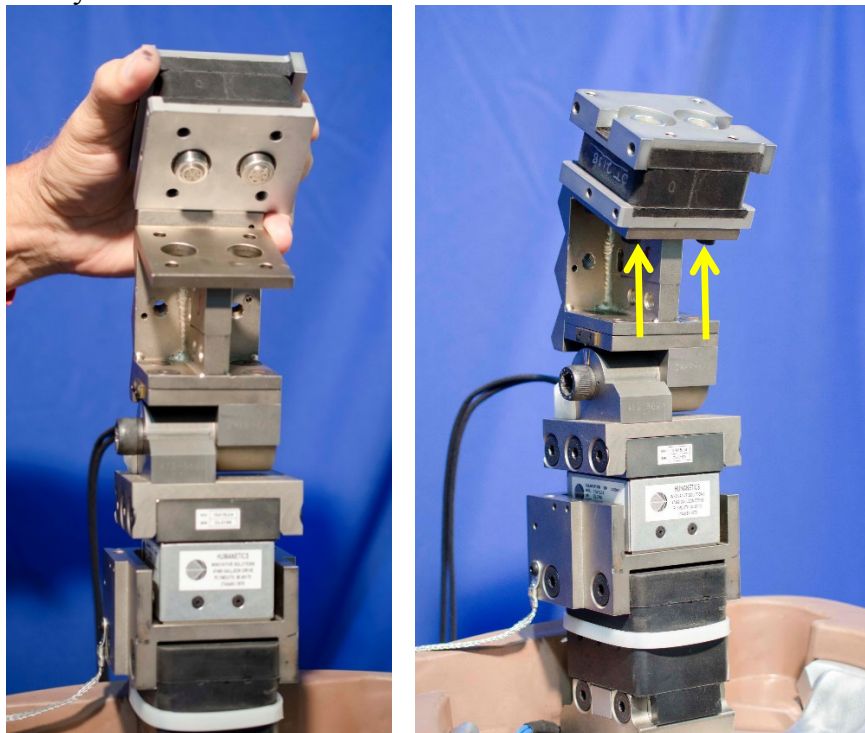

Figure 5-23. Upper flex joint assembled to lower thoracic spine assembly
5.2.2.14 Attach the Upper Thoracic Spine Flex Joint (472-3640) to the Lower Thoracic Spine Assembly (472-3650) using four M6 x 1 x 12 SHCS on the underside of the Lower Thoracic Spine Assembly (Figure 5-23). The flex joint must be oriented with the smaller bottom plate (472-3642) against the Lower Thoracic Spine Assembly and the M5 tapped holes on the side closer to the front of the dummy.